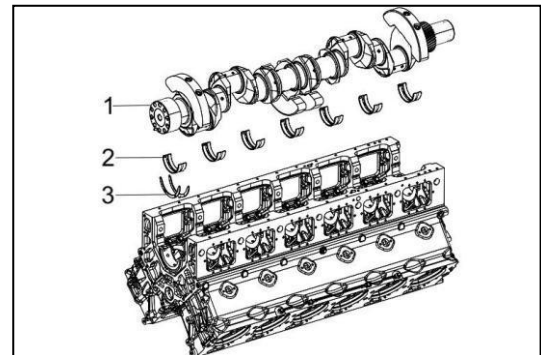

Figure 130
3. Reinstall new main bearing (Figure 130, 2) and thrust plate (Figure 130, 3) in the cylinder block and main bearing caps.